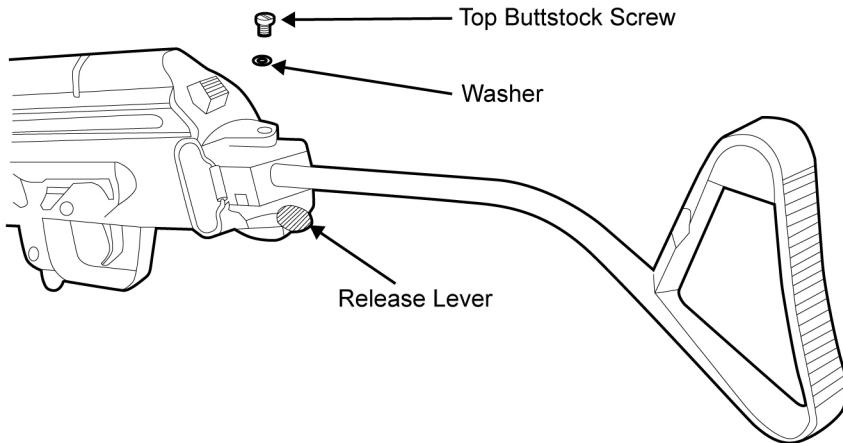

Figure 34. Removing the Top Buttstock Screw and Washer.
a. Ensure that the side folding buttstock is extended. To do so depress the release lever and swing it from the right side of the receiver to the rear until it snaps into place. Remove the top buttstock screw (which may be staked) and washer. Refer to Figure 34.